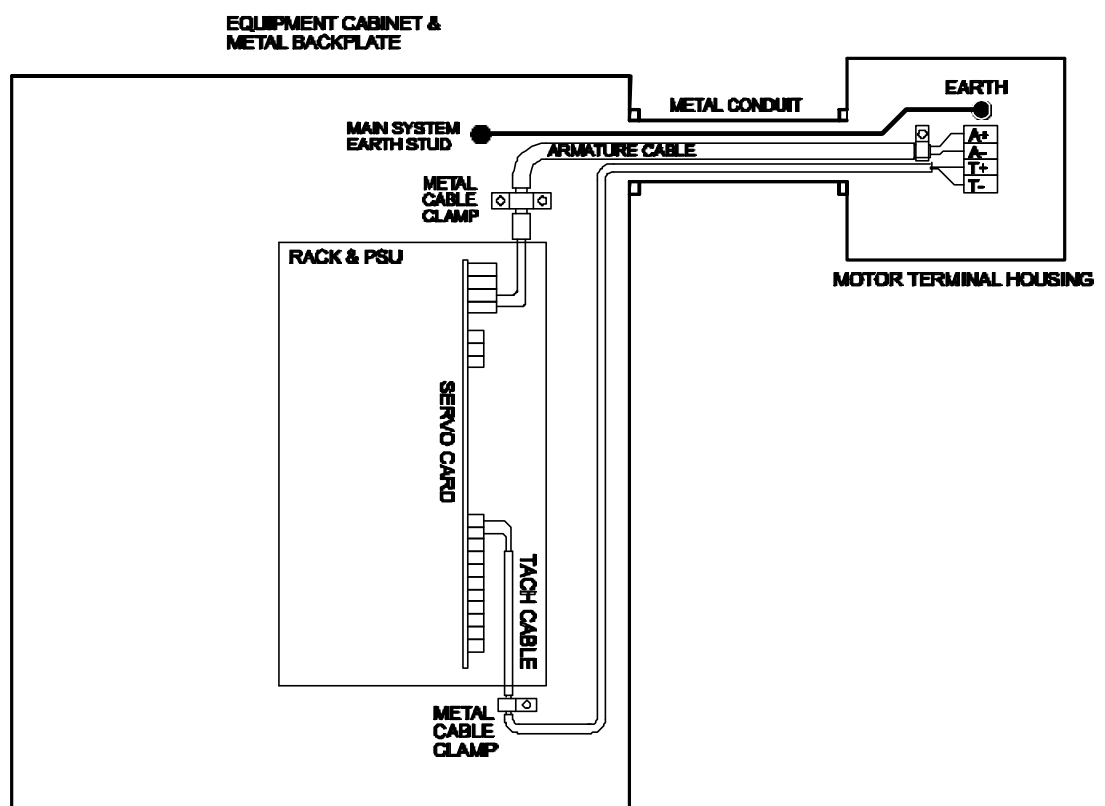

Figure 7
- The motor armature and tach leads should use screened cable. The armature screen should be earthed at both the motor end and also at the servo end. The screens should be earthed to the equipment mounting plate using either brass P-clips or U-clips (or some other similar clamp) and not by forming a pigtail. See Figure 7.